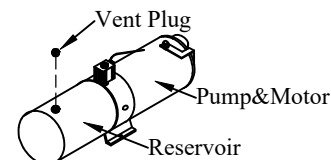

Figure 8: Vent plug.
- (1) Padlock with keys
7. **Install** the vent plug provided into the pump reservoir (Figure 8).